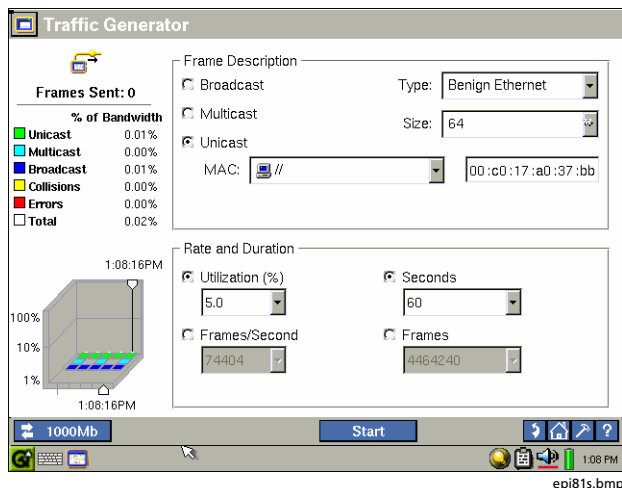

Figure 19. Traffic Generation Screen
2. Tap **Traffic Generator**. Then tap  to configure the parameters for the test (see Figure 19):